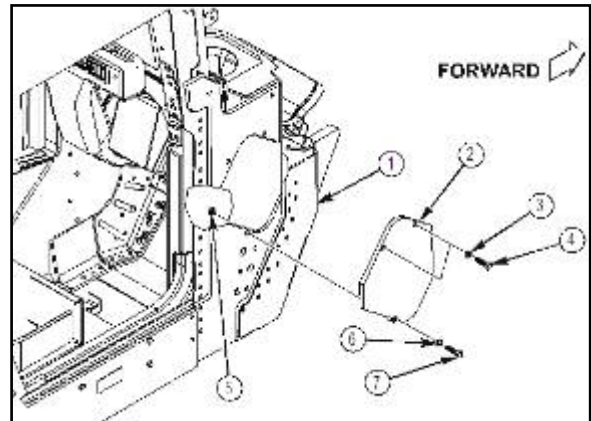

Figure 34a
13. Remove capscrew (7), washer (6) and locknut (5) from aluminum overlay breather cover (2) as shown in figure 34a. Discard all fasteners.
14. Remove two capscrews (4), washers (3), and existing aluminum overlay breather cover (2) from vehicle (1) as shown in figure 34a. Discard all parts.